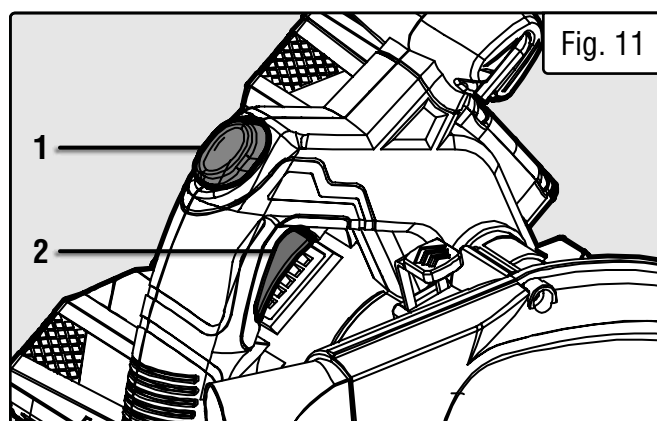

Fig. 11
2. To start the saw, press and hold the plunge lock button (Fig. 11 - 1), then pull the power trigger (Fig. 11 - 2). Once the saw reaches maximum speed, plunge the saw downwards.